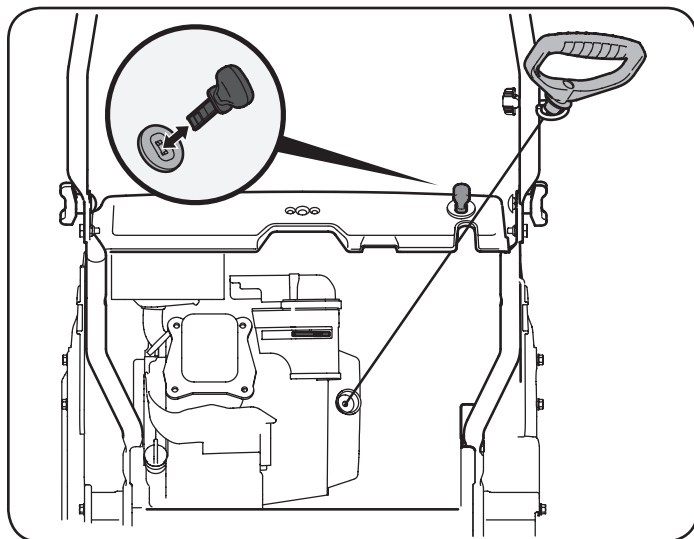
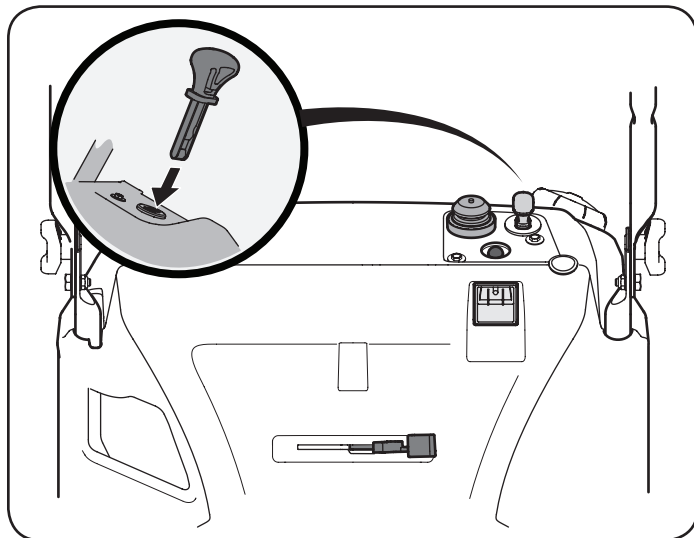

Figure 2
Figure 3
2. Insert ignition key into slot. Make sure it snaps into place. Do not attempt to turn the key. See Figure 2 for models CMXGBAM1054538, CMXGBAM1054539 and see Figure 3 for models CMXGBAM1054540, CMGSB21179.
2. Insert ignition key into slot. Make sure it snaps into place. Do not attempt to turn the key. See Figure 3 for models CMXGBAM1054540 and CMGSB21179.